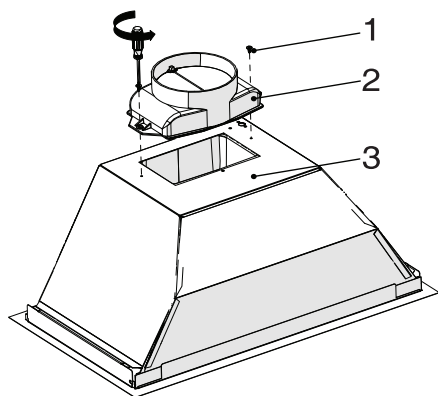

Figure 3
- Attach the plastic flue contained in the package to the body of the appliance using 2 screws 3.5x9.5. (Figure 3) Do not rub it against the surface.